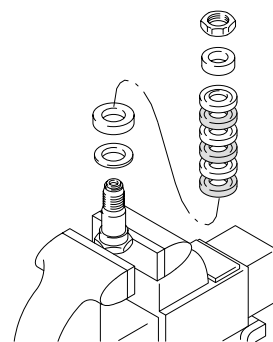

Fig. 21
7. Disassemble the piston and discard the packings and glands. See Fig. 21.